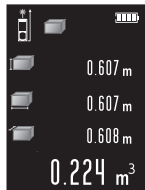

Fig. 4
Step1 – Get first volume result as Fig. 4